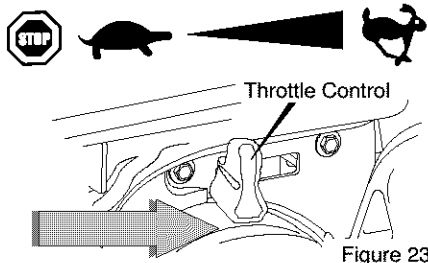

Figure 23
4. Move throttle control to “FAST” position. Operate the engine with the throttle control in the “FAST” position (see Figure 23).